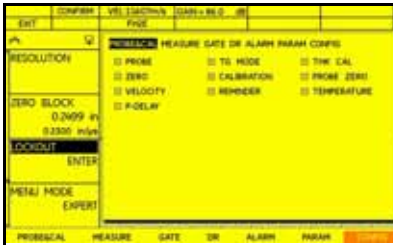

Figure 16: Lockout Option Window
2. Use the joystick () to select LOCKOUT, and then to enter the function. The function menu (a duplicate of the Main Menu, as shown in *Figure 16* below) opens.